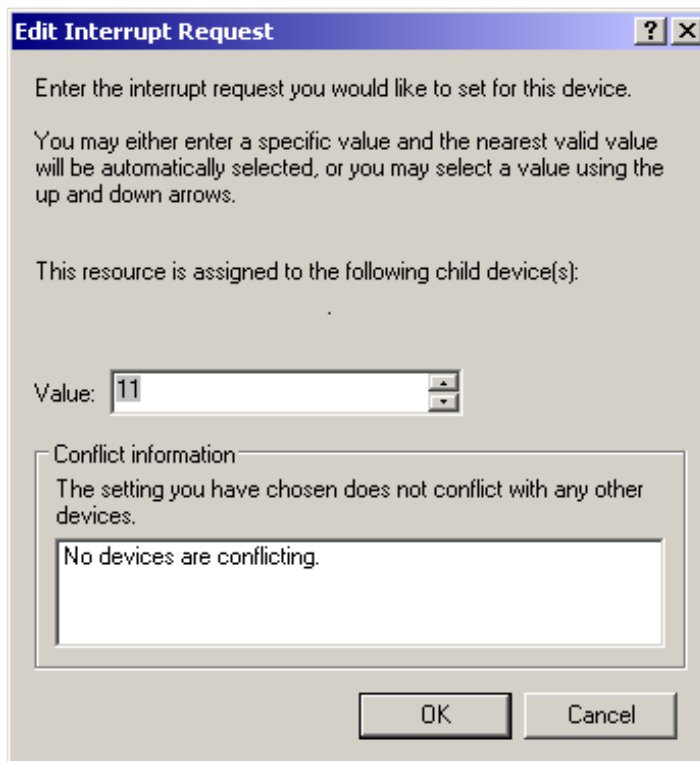

FIGURE 200. Edit Interrupt Request window
42. This will bring up the Edit Interrupt Request window as shown in Figure 200.